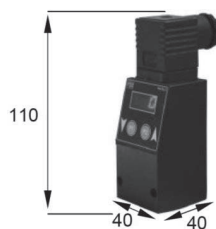
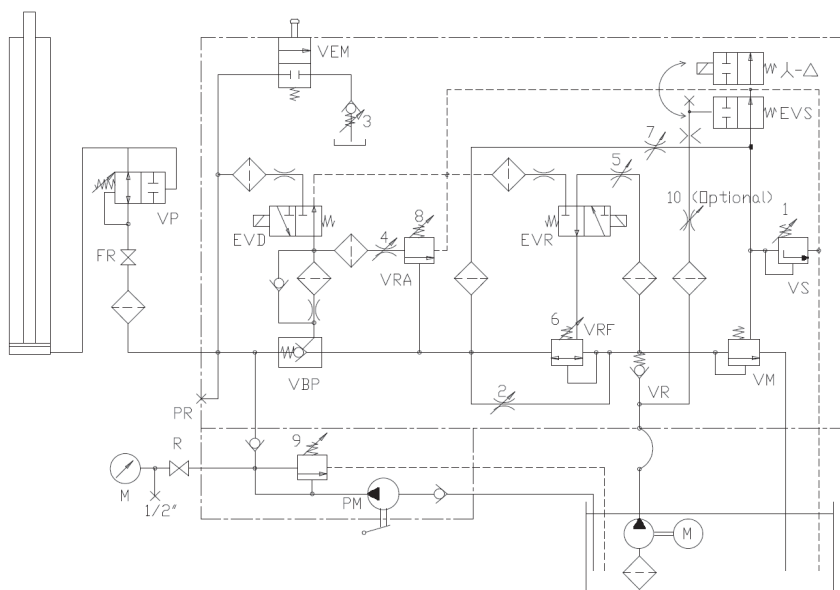

Figure 29 – Pressure switch and electrical diagram
Figure 30 – Hydraulic scheme SF 1855 valve type “NL”
In case a pre-determined pressure is reached inside a pressure switch, an electrical contact, which can be switching, opening or closing, is activated. Pressure switches with different insulating classes, different precision levels or different hysteresis are also possible. The following drawings show three types of pressure switches and two types of contacts. The regulation of the intervention pressure is obtained through single-slot screw which lays in the centre of the pressure switch (see Figure 29): Turn clockwise, the intervention pressure increases, turn anti-clockwise, it decreases. The pressure switch is assembled on the NL valve block and lays directly on the pressure line which gets to the cylinder, before the piloted rupture valve VBP (see also Figure 30). Consequently it is always under pressure.
- The hydraulic diagram SF 1855 of the valve type NL is shown on the following Figure 30